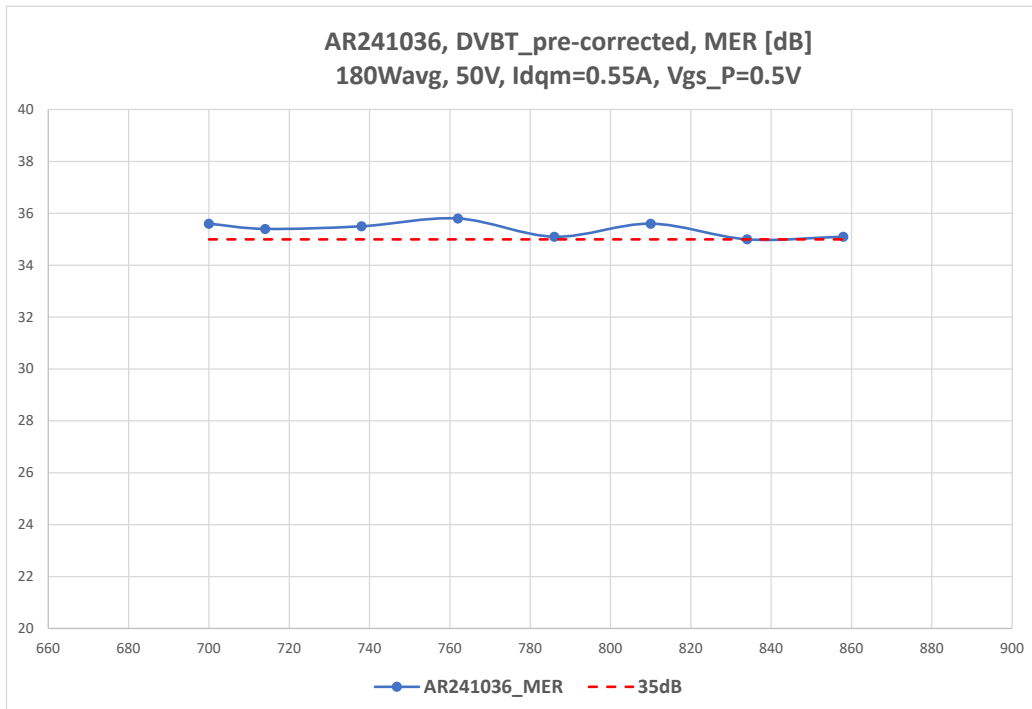

Figure 7 DV-B-T, MER Pre-corrected values
- Figure 7 DVB-T, MER Pre-corrected values 9